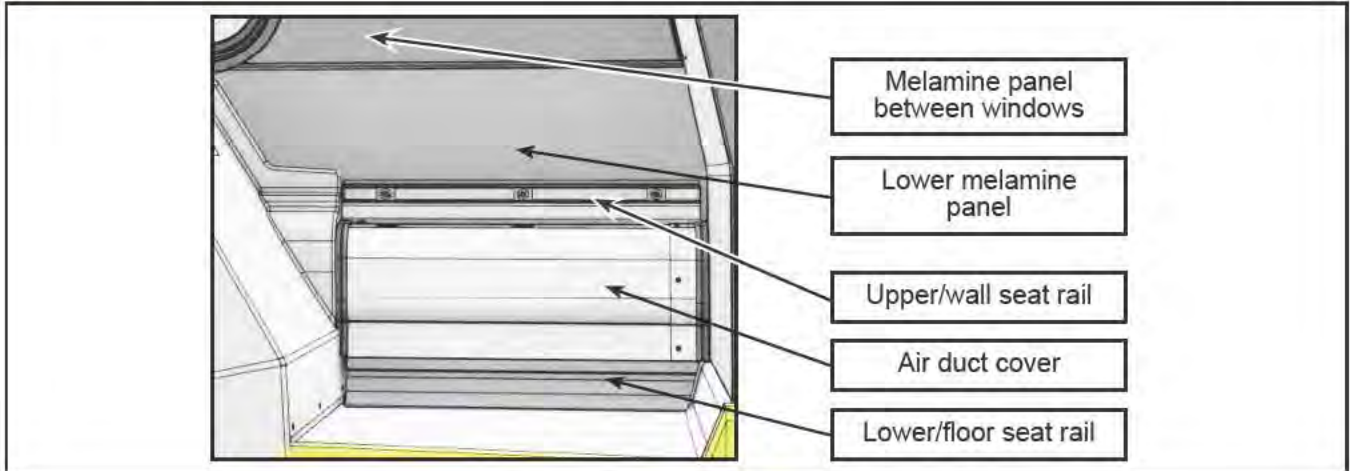

Figure 4 - Components to Remove (Typical)
- 1.11. Remove the upper/wall seat rail (Figure 4).
- 1.12. Remove the air duct plate (Figure 4).
- 1.13. Remove the lower/floor seat rail (Figure 4).
- 1.14. Remove the melamine panels (Figure 4).